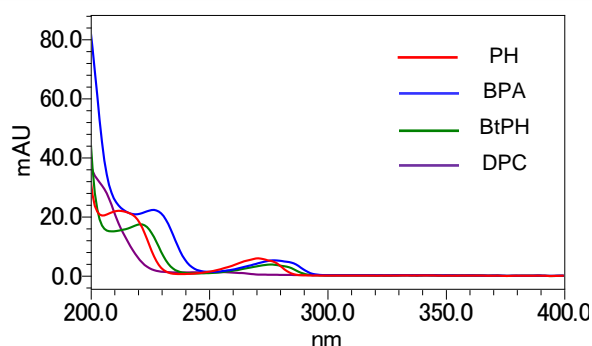

Figure 6 Absorption Spectrum of Standard Solution (0.5 $\mu\text{g/mL}$)
- ✓ Figure 6 shows the absorption spectrum of the standard solution (0.5 $\mu\text{g/mL}$). By using a diode array detector, the absorption spectrum of each component can be confirmed.